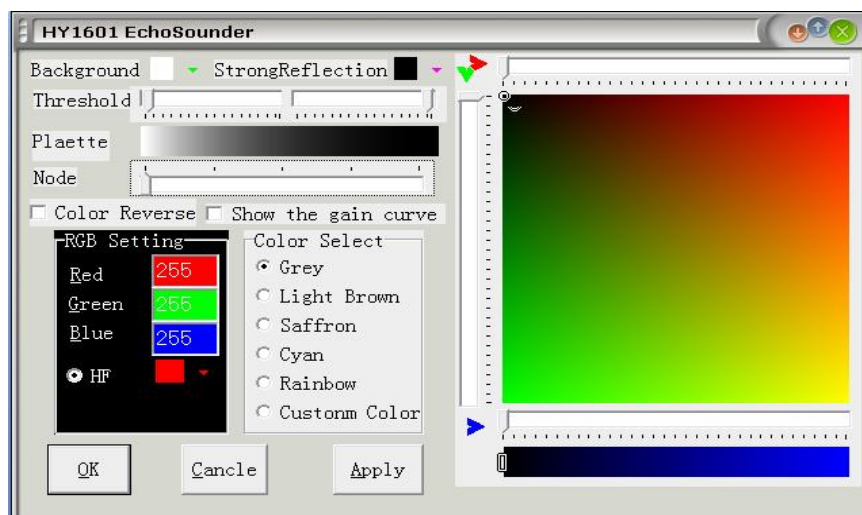

Fig. 6-4 Color parameters
**Color parameters** - This option is used to set the echogram's color while playing back acoustic image. As illustrated in Fig. 6-4.